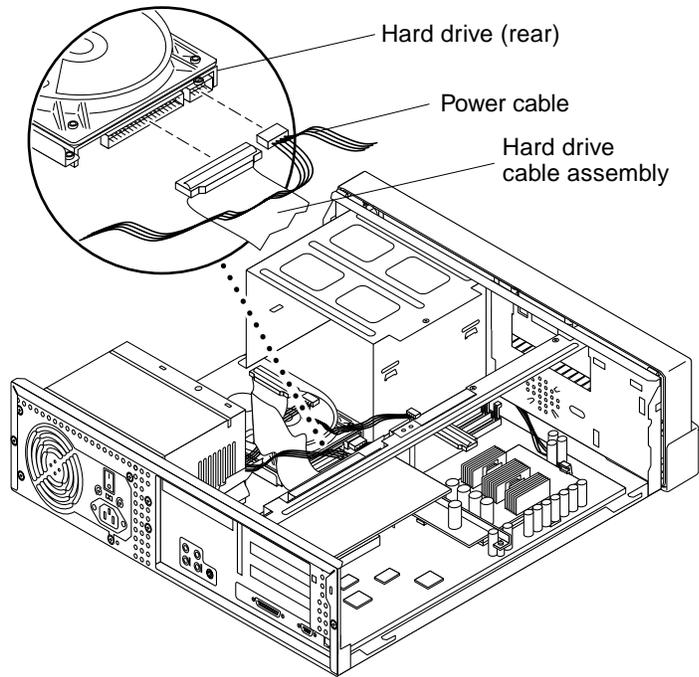
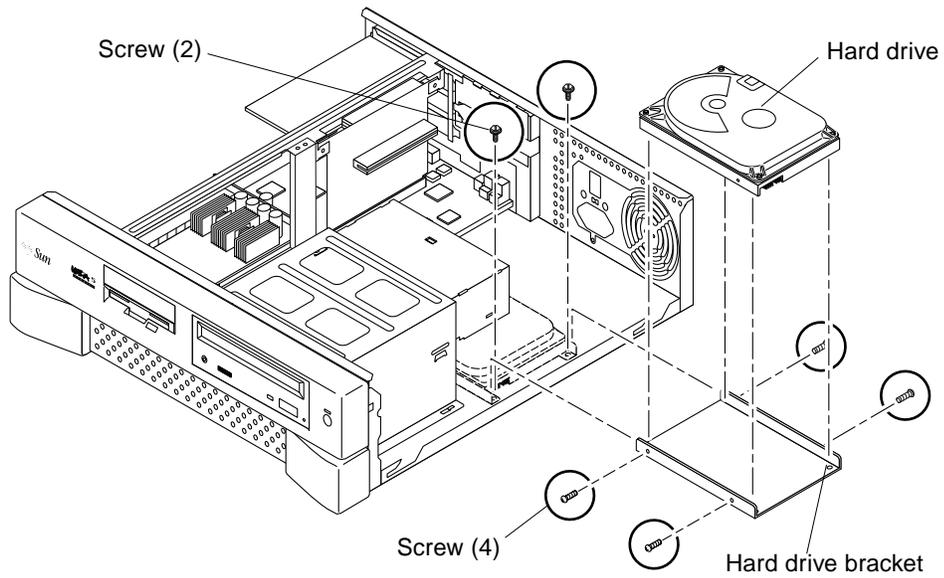

FIGURE 7-3 Removing and Replacing a Primary Hard Drive (Part 1)
FIGURE 7-4 Removing and Replacing a Primary Hard Drive (Part 2)
2. Remove the primary hard drive as follows (FIGURE 7-3 and FIGURE 7-4):
1. **Replace the primary hard drive as follows (FIGURE 7-3 and FIGURE 7-4):**